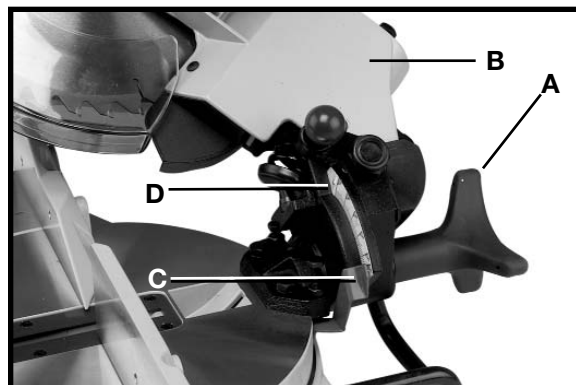

Fig. 16
The cuttinghead of your compound miter saw can be tilted to cut any bevel angle from a 90 degree straight cut off to a 45 degree left bevel angle. Loosen bevel lock handle (A) Fig. 16, tilt cutting arm (B) to the desired angle, and tighten lock handle (A).
Positive stops are provided to rapidly position the saw blade at 90 and 45 degrees to the table. Refer to section entitled **“ADJUSTING 90 AND 45 DEGREE BEVEL STOPS”**. The bevel angle of the cutting arm is determined by the position of the pointer (C) Fig. 16 on the scale (D).